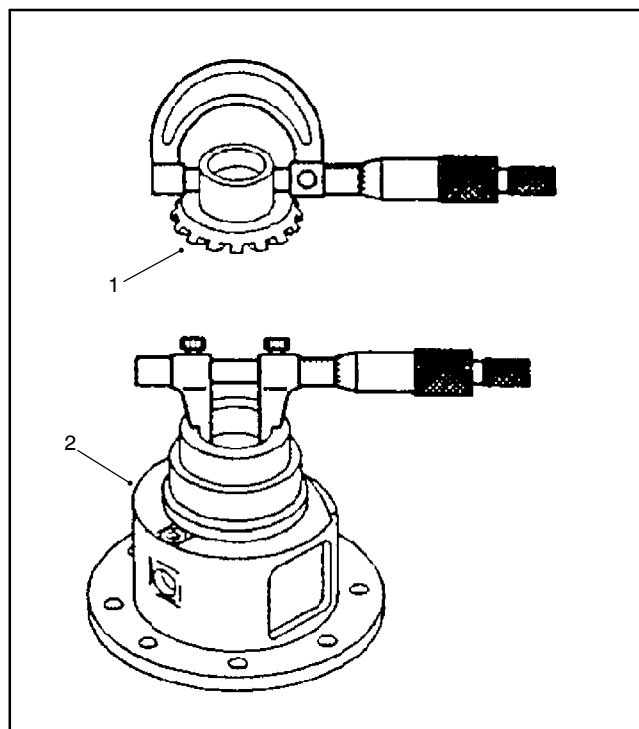

Figure 33
1. Measure the differential side gear O.D. and the differential case I.D. to determine the side gear to case clearance (Fig. 33). Replace components as necessary.